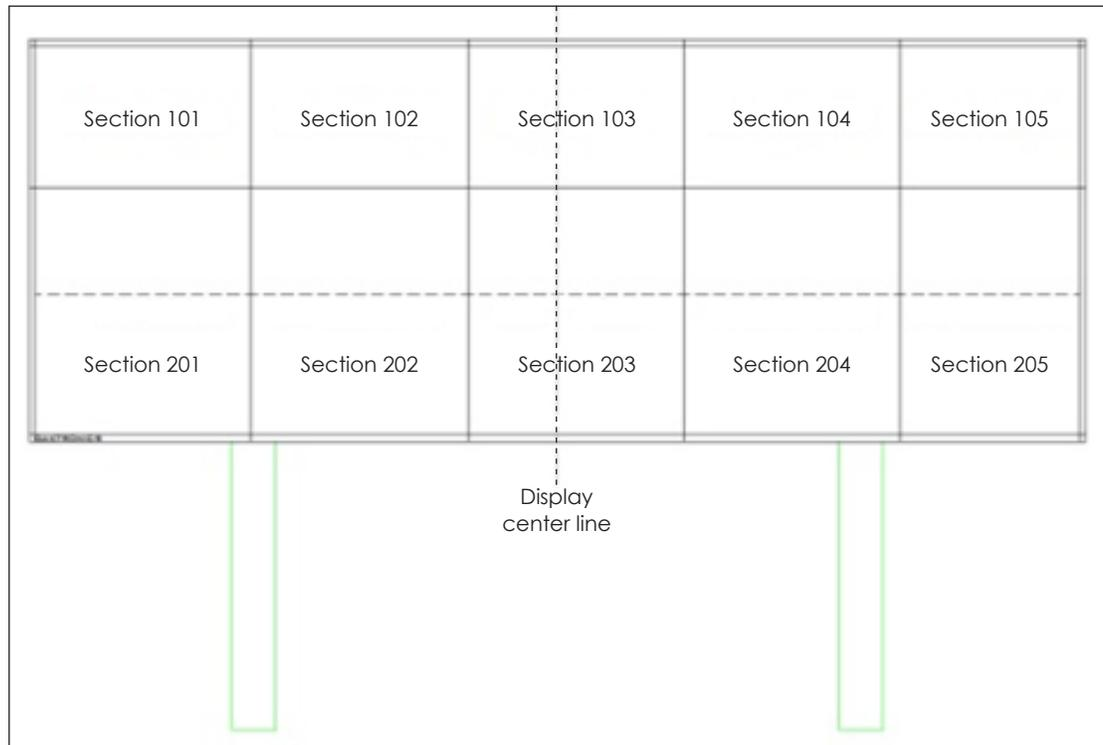

Figure 21: Determine First Section Installed
2. Determine which section in the bottom of the display lies in that center line. If the center line falls somewhere within the width of a section, this section will be the first section installed. In **Figure 21**, Section 203 will be installed first. If the center line falls at the intersection of two sections on the bottom row, the section to the left of the center line will be the first section installed.